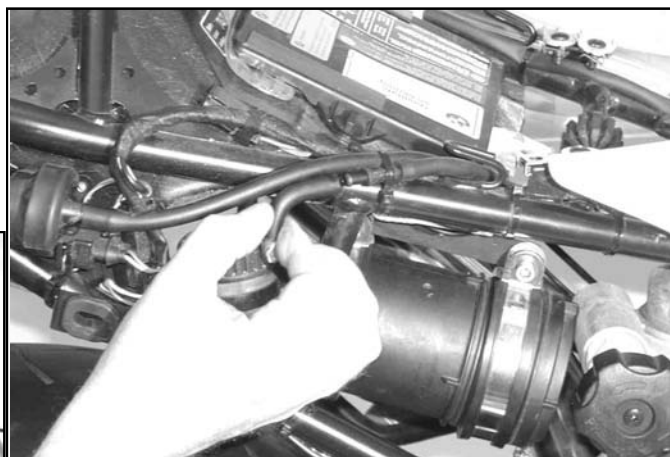

Figure 9
5. Using the "short" hose from **INSTALLATION STEP 2**, plug one end onto the junction at the upper sub-frame rail and route it through the frame. Plug the other end onto the center fitting on the Canister. See figure 9.